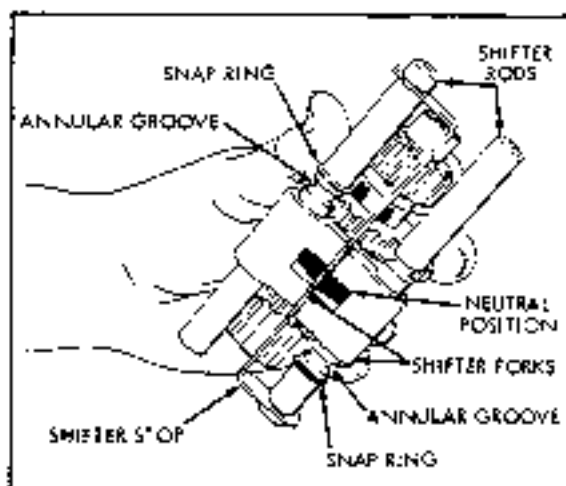

Figure 47 Final Assembly
- (4) When the shifter forks are properly assembled to the shifter rods and positioned in neutral, the ends of the notches in the shifter forks are in alignment. (Figure 47).